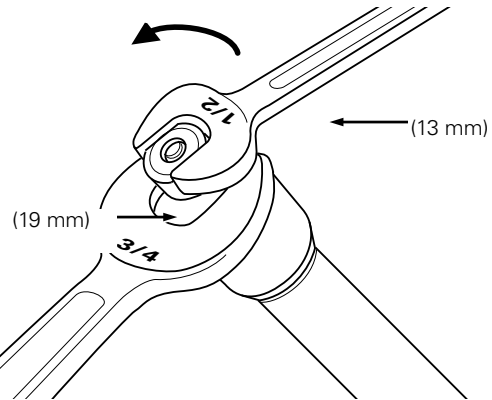

Figure 6. Remove end plug from fuse cartridge.
- Use 3/4 inch (19 mm) and 1/2 inch (13 mm) wrenches to remove end plug. (See Figure 6.)